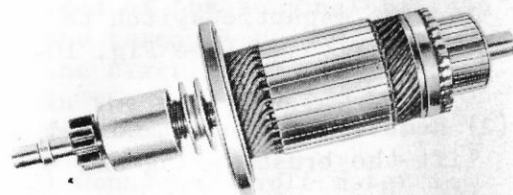

Fig. 10-100
- (3) Remove the through bolts from the rear cover and then pull out the armature. (See Fig. 10-100)